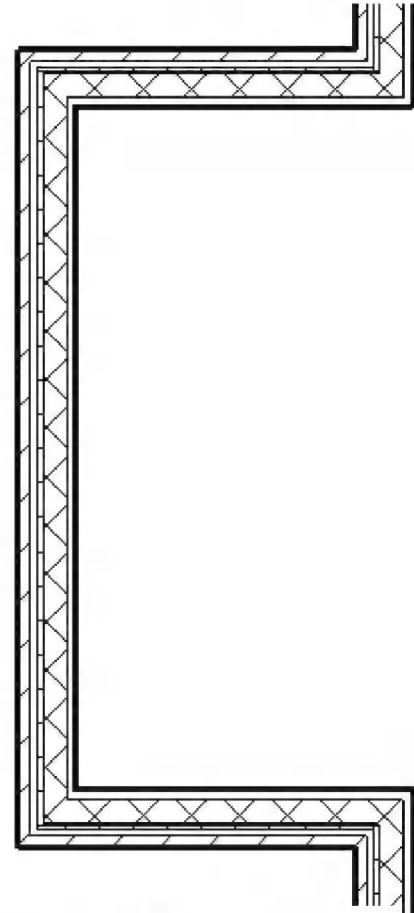

FIGURE 3-3.6 Trim tool
19. Select **Modify** → **Modify** → **Trim** to trim the corners so the exterior wall only occurs at exterior conditions (Figure 3-3.6).